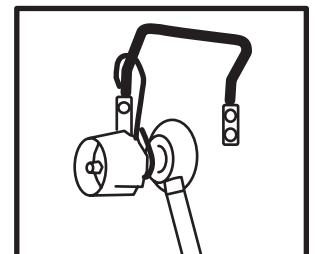

FIGURE 20
1. Place one end of the S-Hook around the HVR neck. **FIGURE 20**